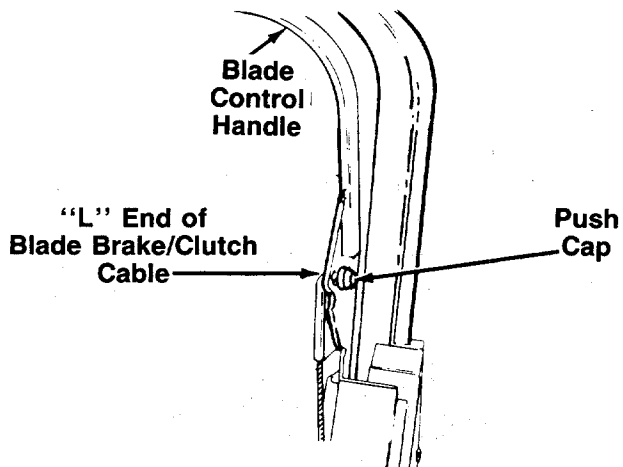

FIGURE 4.
3. Insert the "L" end of the blade brake/clutch cable into the hole in the blade brake/clutch control handle, from the inside to the outside as shown in figure 4. Hold the end of the cable, and press push cap on by hand.